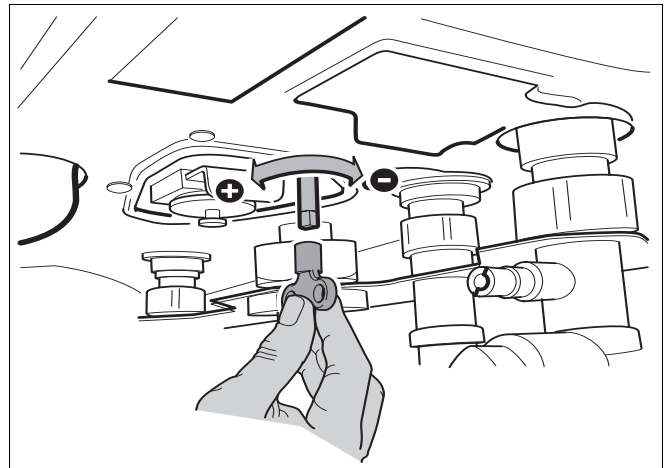

fig. 49 DHW flow regulator
The DHW flow regulator is located on the bottom frame of the boiler (see fig. 49).
- Adjust the DHW flow regulator (fig. 49) to the desired setting: